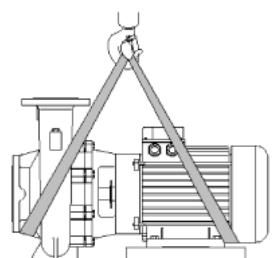

Fig. 2: Transporting the pump
• The transport eyes on the motor are only for guiding while bearing the load (See Fig. 2).